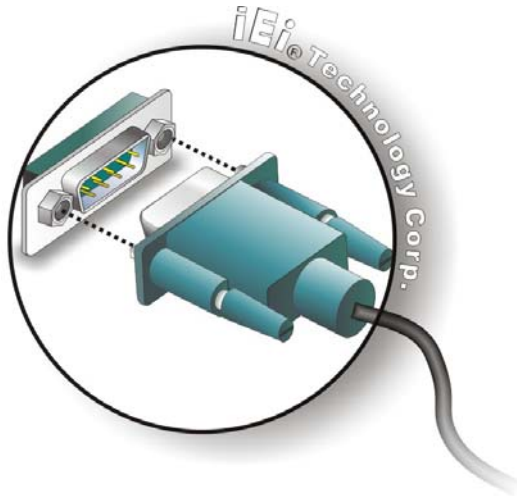

Figure 3-22: Serial Device Connector
Step 2: **Insert the serial connector.** Insert the DB-9 connector of a serial device into the DB-9 connector on the external peripheral interface. See Figure 3-22.